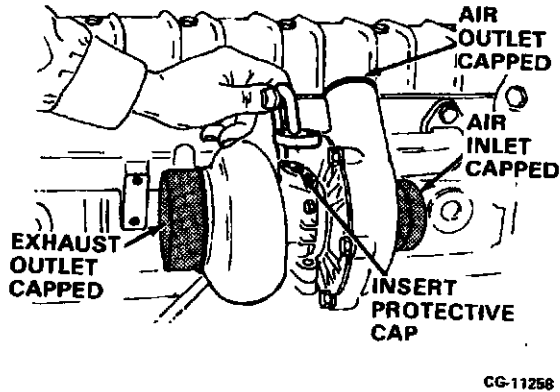

Figure 2.7. Protective Cap Locations
- f. Cap ALL openings as specified in Figure 2.7.